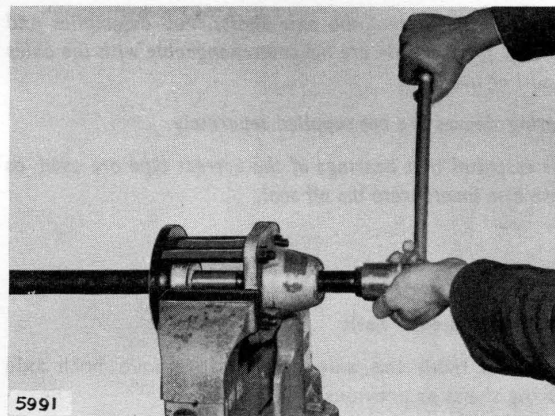

Fig. 5. Removing hub bearing
**To remove rear hub bearings** (See Fig. 5)